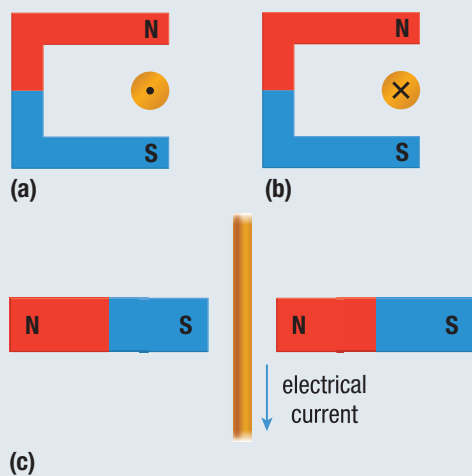

Figure 8
1. Copy each diagram in Figure 8 into your notebook, and draw the magnetic field lines of both the magnet and the conductor. Then determine the direction of the force on the conductor. T/I C